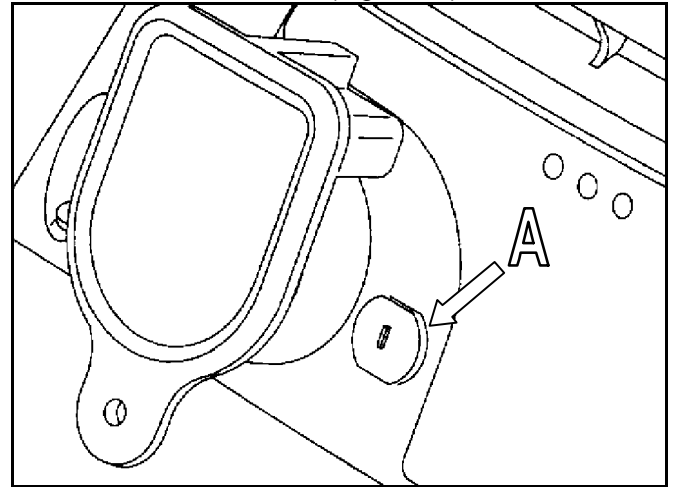

Figure 24
2. Wait 30 seconds to 1 minute before pushing in circuit breaker button (Figure 24).